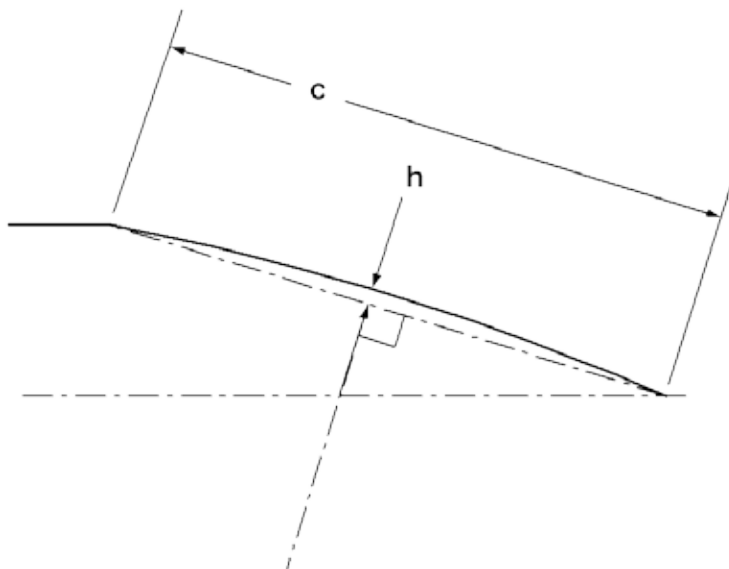

Figure 5.
1. Draw a line from the point of the nose to the intersection of the body tube (see close up Figure 5, below). This is called a chord, or a secant (imagine that!).